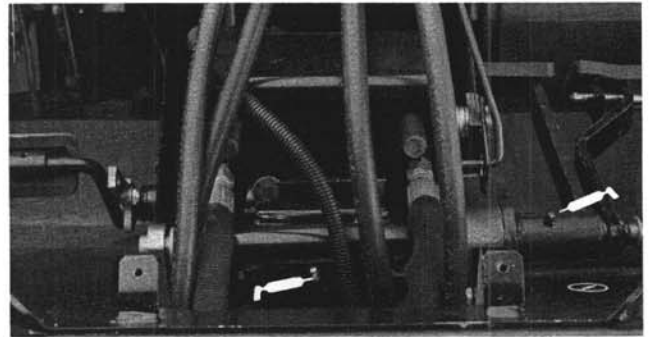
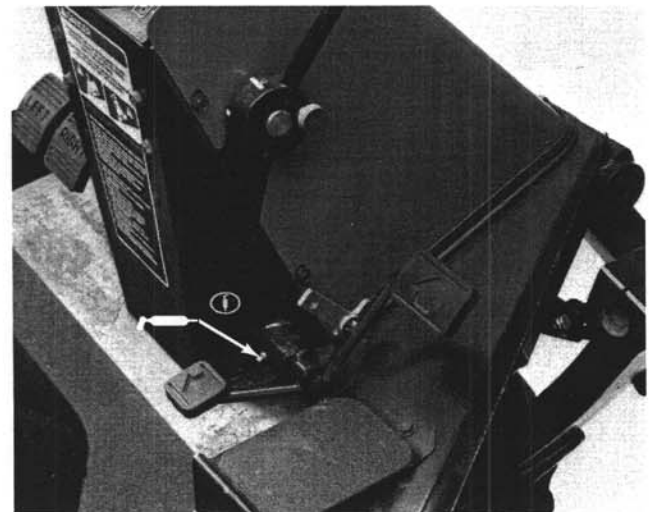
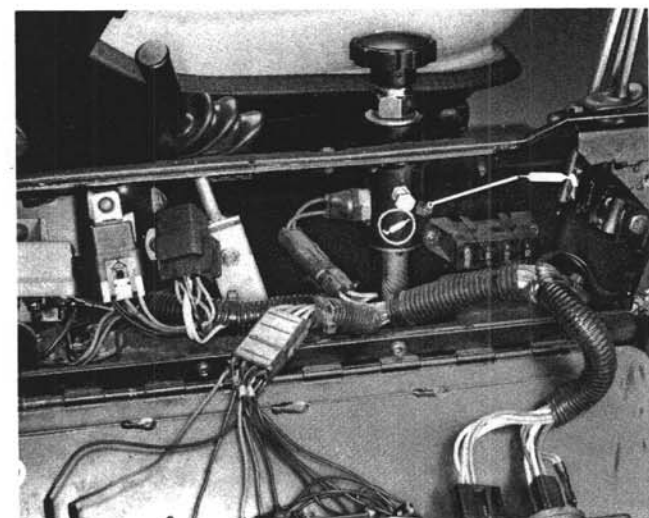
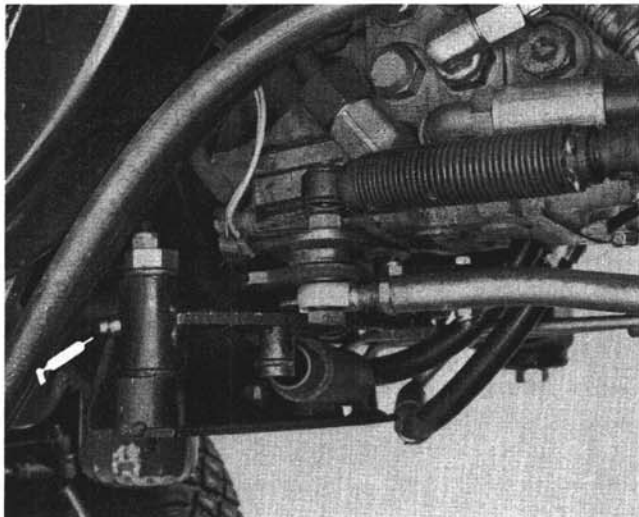

Figure 30
Figure 31
Figure 32
Figure 33
Two and Four wheel drive machines – #1 Lift arm pivot (1), #1 lift cylinder (1), brake arm pivots (2) (Fig. 28); #2 & 3 lift arm pivots (2), #2 & #3 lift cylinders (2), brake pivot (1) (Fig. 29); brake pivots (2) (Fig. 30); traction pedal pivot (1) (Fig. 31); reel speed shaft (1) (Fig. 32); traction adjuster (1) (Fig. 33) and the transmission shift linkage (1) (Fig. 38)